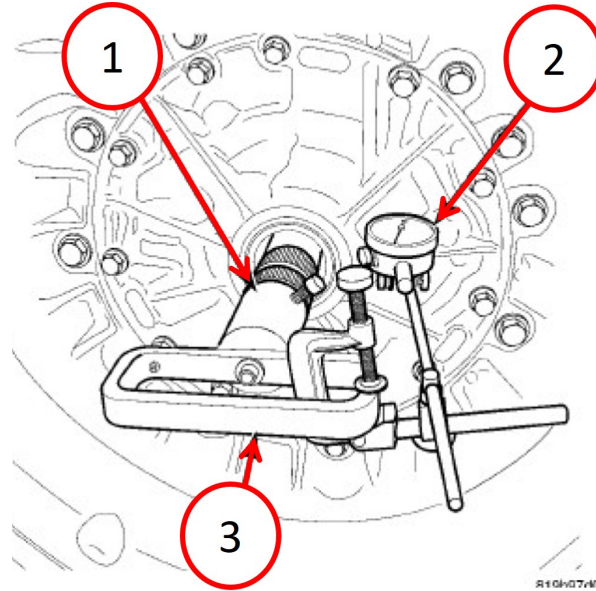

Fig. 3
- Using Adapter Socket, End Play 8266-22 and the handle from End-Play Tool Set 8266B and Dial Indicator C-3339A, measure and record the input shaft end-play (Fig. 3) .